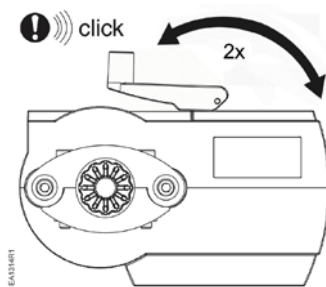

Figure 11.
- Fold out and fold back the crank handle twice within 4 seconds. See Figure 11. Self-calibration begins.